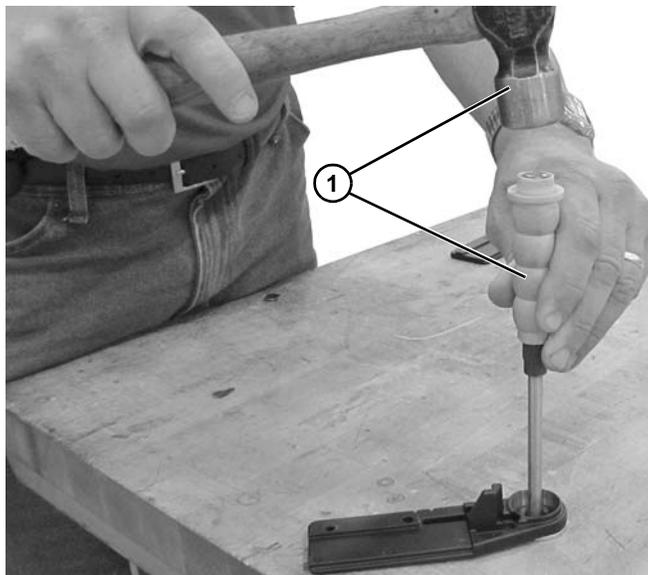

Figure 90
3. Use a hammer and punch (1/4" - 1/2" dia) (**Figure 90, item 1**) or long bolt to knock out slug (**Figure 94, item 1**) for shaft backing up tail plate with washer.